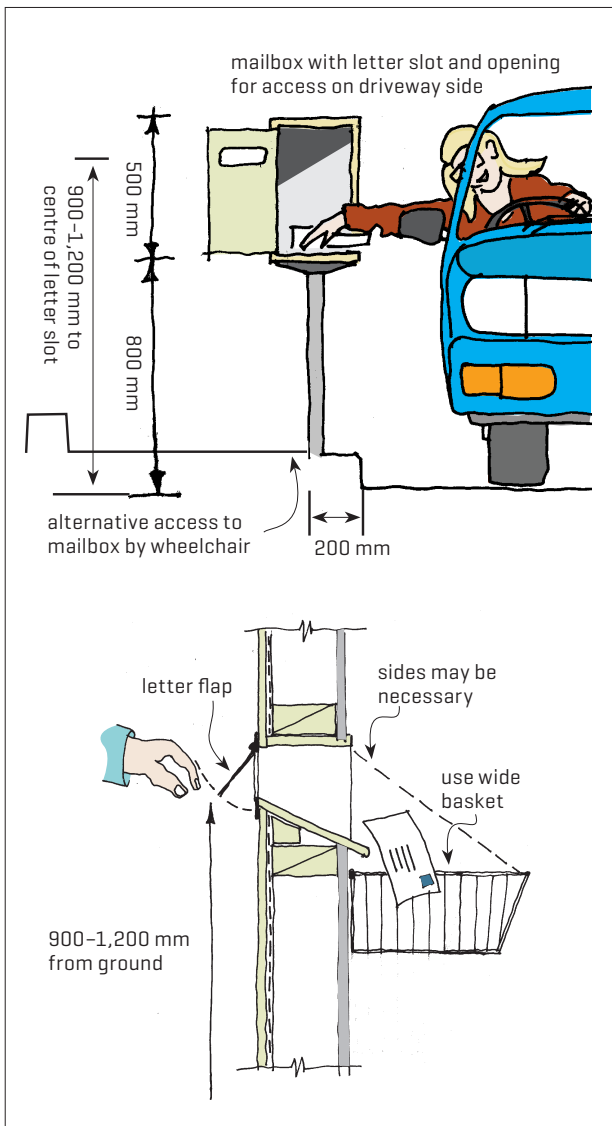

Figure 5. Example configurations for mailboxes.
5.0.1 The mailbox should be at a height and position so that the driver can pick up the contents through the car window and so that a wheelchair user or ambulant person can also access it [Figure 5]. If the garage is near enough to the public road, with the approval of the local delivery office, the mailbox could be built into the garage wall and the mail collected from inside.